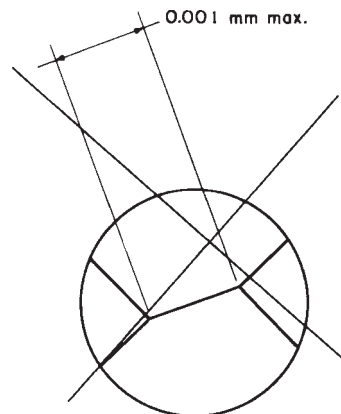

FIG. 2 Junction of Indenter Faces
4.2.2 All four faces of the indenter shall be equally inclined to the axis of the indenter (within ± 30 min) and meet at a sharp point, that is, the line of junction between opposite faces shall not be more than 0.001 mm in length as shown in Fig. 2.